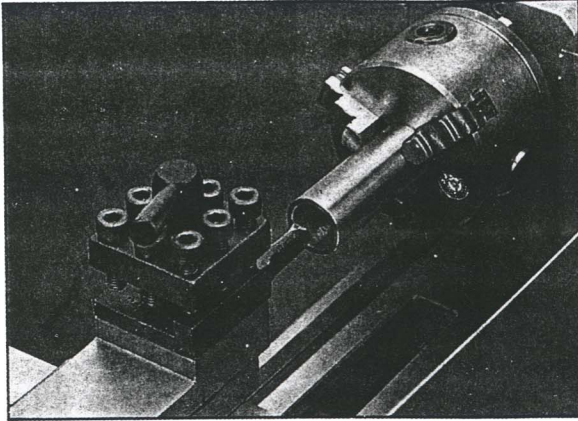

Fig. 15
3. By changing the tool post angle and adjusting the compound rest, you can do internal cutting (figure 15).